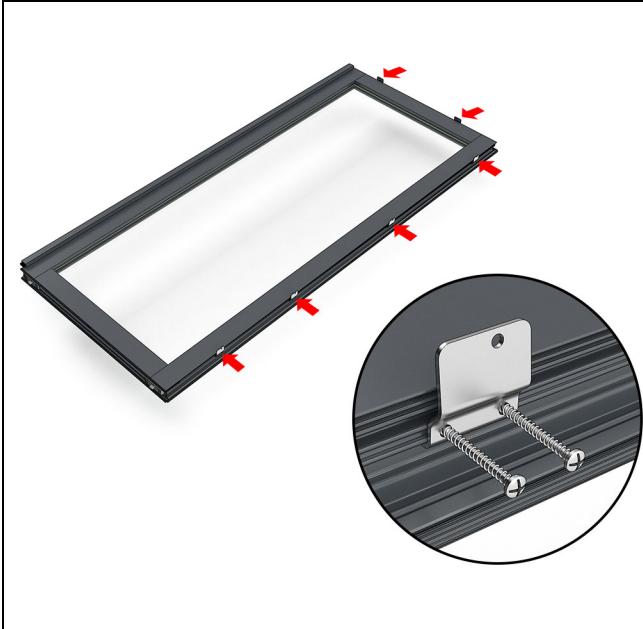

Figure 53
1. On stationary panels, install the stationary brackets onto the panel. Fasten with the #8 x 1 3/4" screws provided. See Figure 53.